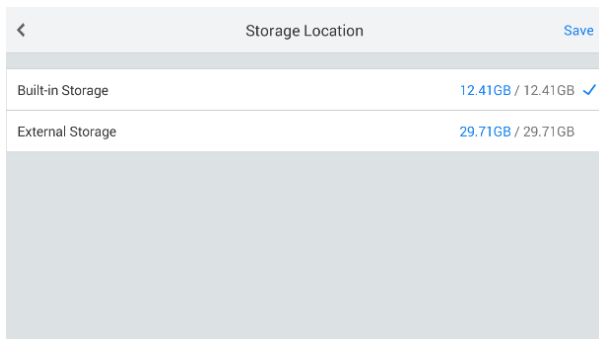

Figure 6-10 *Sample Storage Location Setting*
3. Select one of the 7 choices: Disable, In 10 minutes, In 20 minutes, In 30 minutes, In 40 minutes, In 50 minutes, In 60 minutes. A tick will display to the right of the selected time. Manual time setting is also available. You can tap **Set Time** and roll up and down in the setting screen then tap **OK** to confirm (Fig 6-10).